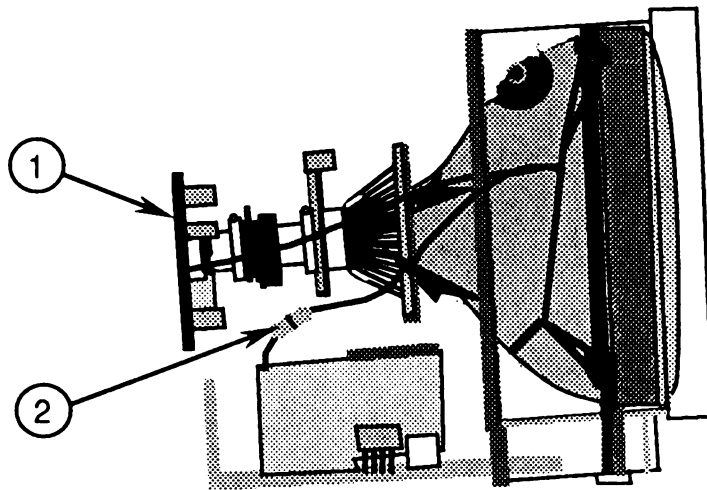

FIGURE 35
4. Carefully pull the CRT board (Figure 35, #1) off the neck of the CRT.
6. Disconnect the white CRT ground wire from its plug-in connector beneath the CRT neck (Figure 35, #2).